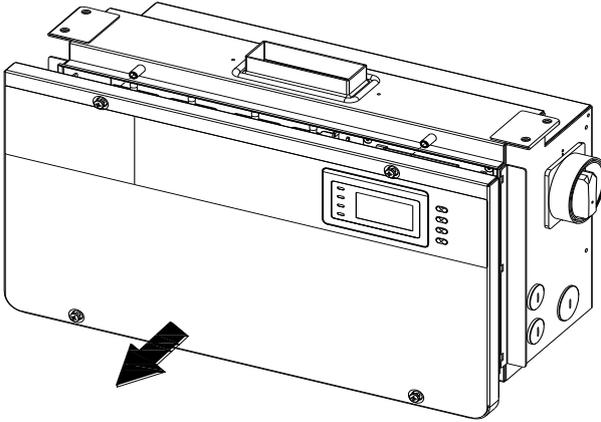

Figure 2.15 – Removing the Wiring Box Cover
(1) Use a #3 Phillips screwdriver to remove the 4 screws on the wiring box and pull cover straight off the box. Do not twist or slide the cover while removing. (see Figure 2.15)
1. Remove the cover of the wiring box. (see Figure 2-15)